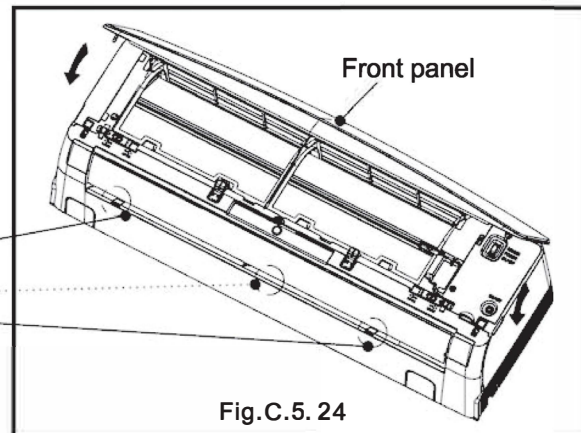

Fig.C.5.24
12) Close the front panel as shown in Fig. C.5.24